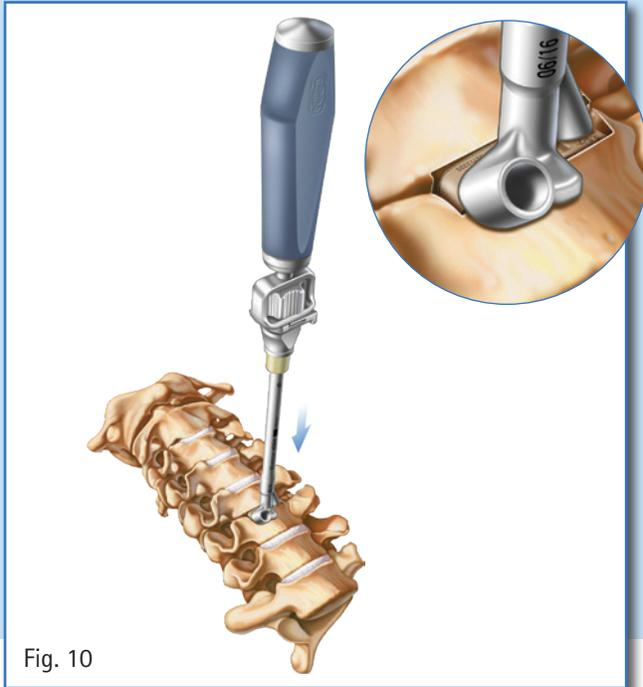

Fig. 10
- Introduce the implant into the disc space. The implant should be inserted centrally in AP. (Fig. 10)